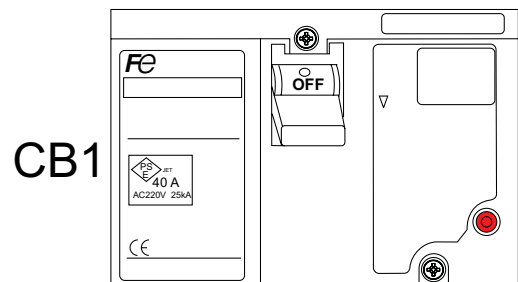

Figure 68. Circuit Breaker OFF (GFCI Test)
6. Also verify that the main circuit breaker (Figure 68) switch trips to the **OFF** position.